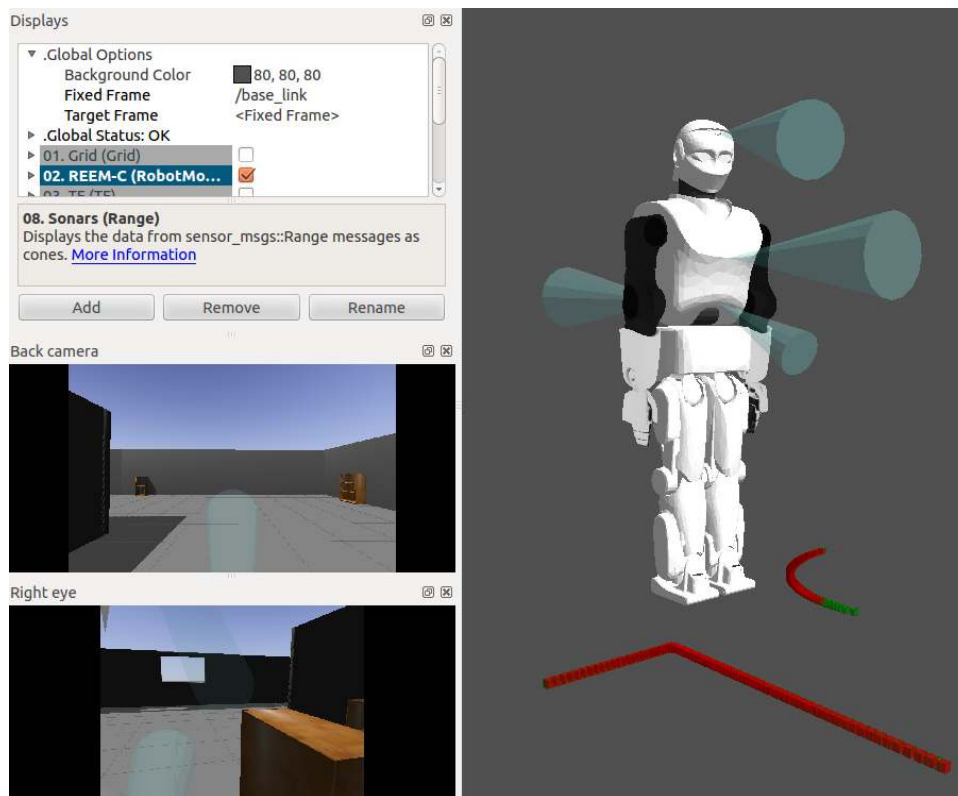

Figure 109: REEM-C sensors view of the world through rviz.
2. Activate the sensor displays (cameras, laser scanners, sonars) to see the robot's view of the world through its sensors. In Figure 109 it can be seen how the feet-mounted laser scanners detect the bookshelf and the cylinder added above (red point cloud), and how the lower torso sonar is detecting the cylinder (notice the smaller acoustic cone size).